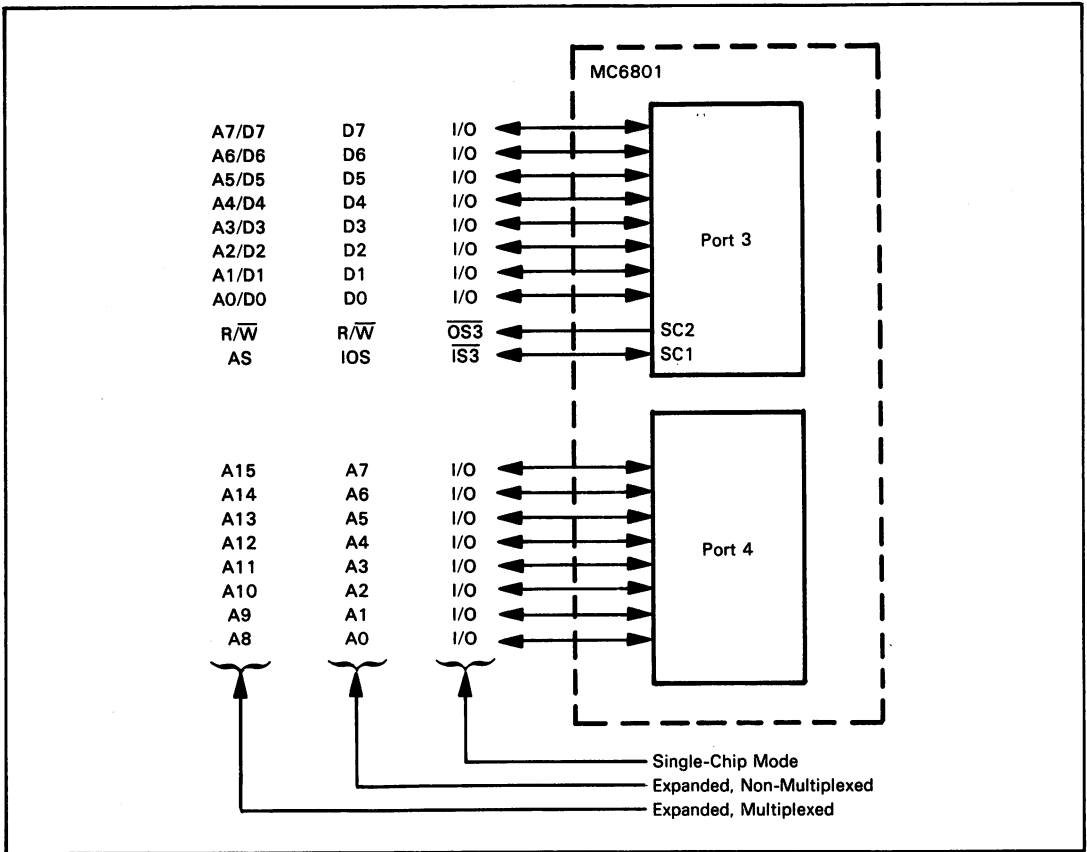

Figure.9-42. MC6801 Port 3 and Port 4 Usage
**Figure 9-42 illustrates the functions of each of the Port 3 and Port 4 lines for the three primary operating modes.**